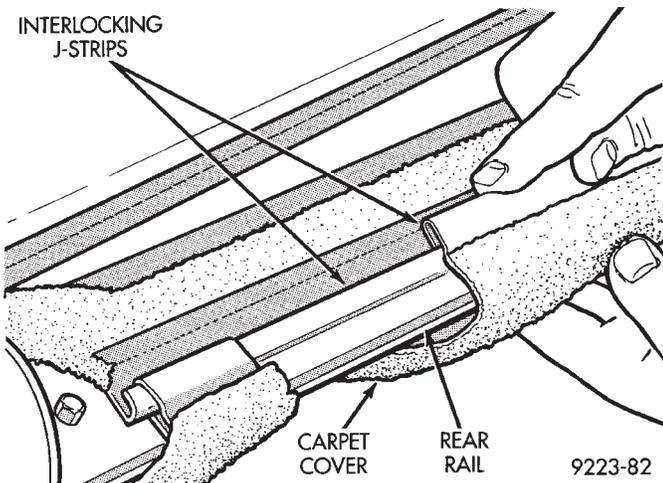

Fig. 41 Interlocking J-strips
- (4) Disengage interlocking J-strips holding carpet cover together below rear rail (Fig. 41).